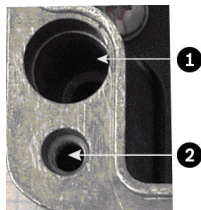

Figure 4.2 Holes for screws for mounting enclosure mounting; holes for screws for enclosure lid
2. Locate the four (4) mounting holes of the power supply enclosure. (*Figure 4.2* displays one of the holes.) See the dimensional drawing in the appendix for hole locations. The dimensions shown are for the mounting holes only. The other 4 holes shown are for securing the lid and are for reference only.
3. Drill four (4) holes in the mounting surface for the mounting anchors appropriate for M6 screws (not supplied).
4. Loosen the four (4) captive Phillips head screws on the top of the lid of the power supply enclosure (item 2, *Figure 4.2*). Lift the lid and set it upside down next to the enclosure.
5. Secure the enclosure to the mounting surface using four (4) M6 stainless steel screws and washers (not supplied), which fit through the large holes in the enclosure, as shown in *Figure 4.2*.